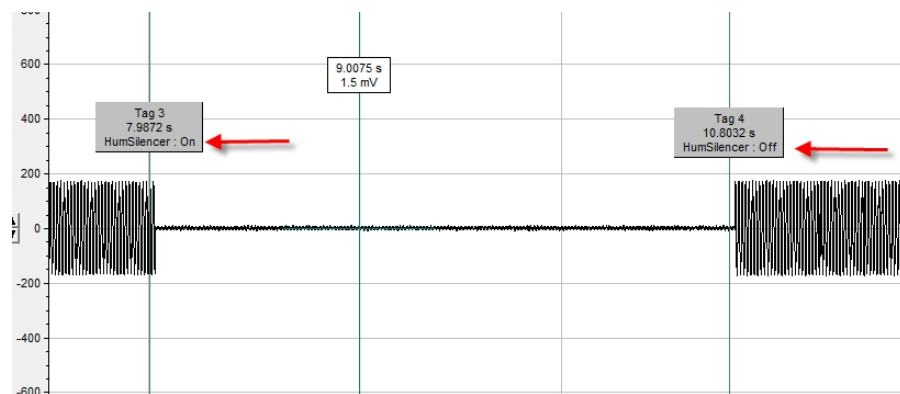

Figure 4-4: HumSilencer Start and HumSilencer Stop comment tags in an open data file.
- **Clear** - Click to reset the collected cache of the learned real-time noise patterns. HumSilencer Start and HumSilencer Stop comment tags display when a data file opens in an Analysis window (Figure 4-4).